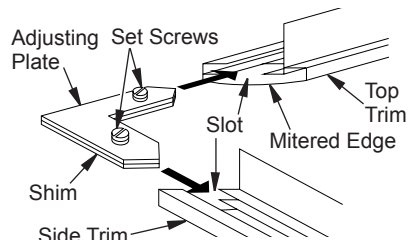

Figure 14 - Assembling Trim
3. Align shim under adjusting plate as shown in Figure 14.
4. Slide one end of adjusting plate/shim in slot on mitered edge of top trim (see Figure 14).
5. Slide other end of adjusting plate/shim in slot on mitered edge of side trim (see Figure 14).